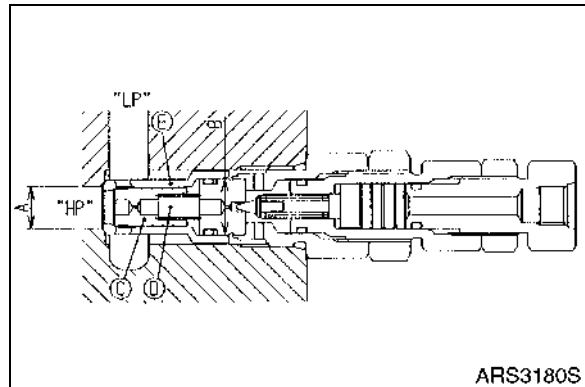

Figure 21
1. The main relief valve is located between neutral oil passage (HP, Figure 21) and low pressure oil passage (LP). Pressurized oil flows into neutral oil passage (HP) through orifice in the main poppet (C) to fill internal cavity (D). Due to the difference in areas between (A) and (B), on which hydraulic pressure acts, main poppet (C) seats on sleeve (E).